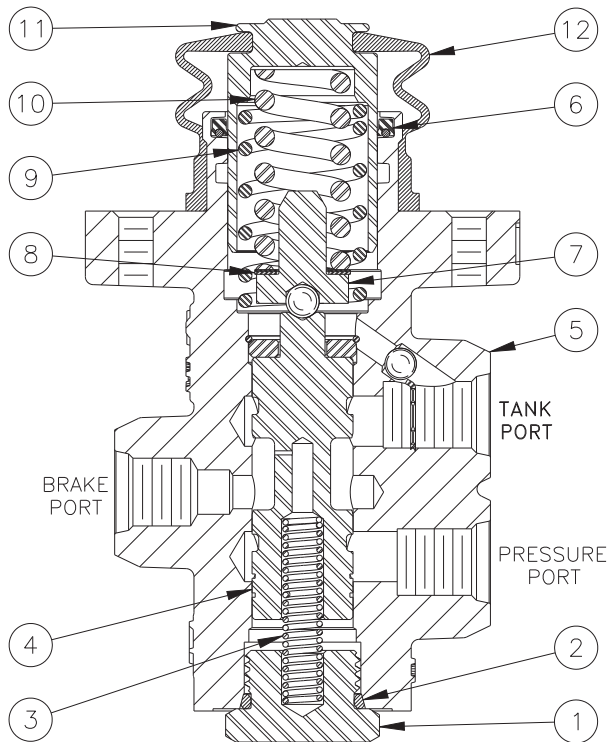

FIGURE 1
(Refer to Figures 1 and 2)
Installation and test note: Piston (11) in Figures 1 & 2 must be retained mechanically. This will prevent it from blowing out at high velocity if an incorrect connection occurs from power source to tank port. **Be sure the tank port is connected to tank.** Failure to do this could result in serious injury or death.